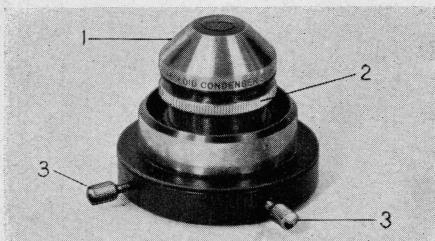
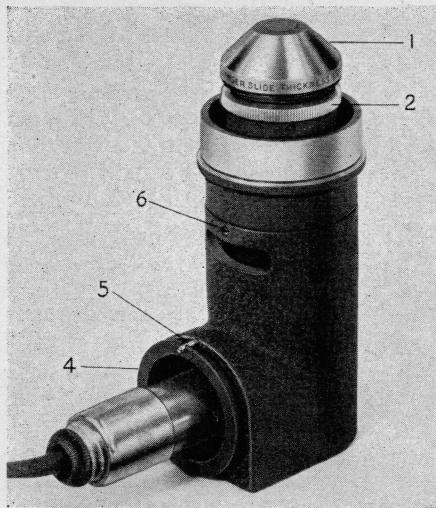
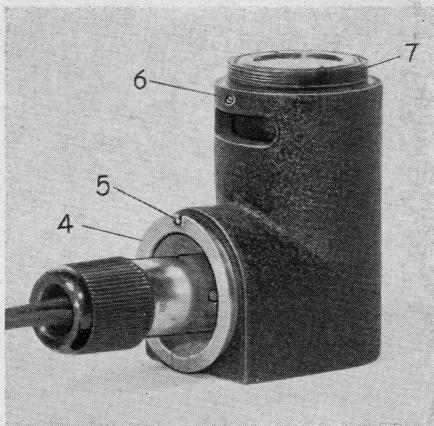

Figure 1
Figure 2
Figure 5
The Bausch & Lomb Paraboloid Condenser is supplied for use with the simple substages, either in a centering mount, Figure 1, or with a factory adjusted lamp, Figure 2; it is also supplied on a dovetail slide for attaching to the complete centering substages, Figure 3.
Make sure that the dark field condenser is adjusted flush with the microscope stage when the substages are racked to its highest position. By means of the two centering screws (3), Figure 1, or by means of two centering screws of the centering substages, in the case of the mount illustrated in Figure 3, adjust the condenser until the top of the condenser is centered
in the opening of the stage. If the stage does not have a circular opening, lower an objective to within a few millimeters of the condenser and center the condenser to the objective. In the case of the 31-58-51 Paraboloid Condenser (Figure 2) which has a factory-centered system, such centering is not required.
The No. 31-58-51 Paraboloid Condenser, Figure 2, is supplied with a lamp which uses the 31-31-39 pre-focused, pre-centered bulb, so that no adjustments are needed on the lamp
For routine use with the 31-58-50 Paraboloid Condenser, Figure 1, we recommend the 31-33-43 Dark Field
Lamp, Figure 5, with either a 6 volt transformer or resistance. This lamp is similar to the one illustrated in Figure 2, and makes use of the 31-31-39 pre-focused bulb. To replace the bulb follow the directions given for the 31-58-51-51 lamp (page 3).
To attach the lamp, Figure 5, to the condenser mount, Figure 1, screw the condenser mount directly on to the thread, 7, (Figure 5). The completed assembly is illustrated in Figure 4.